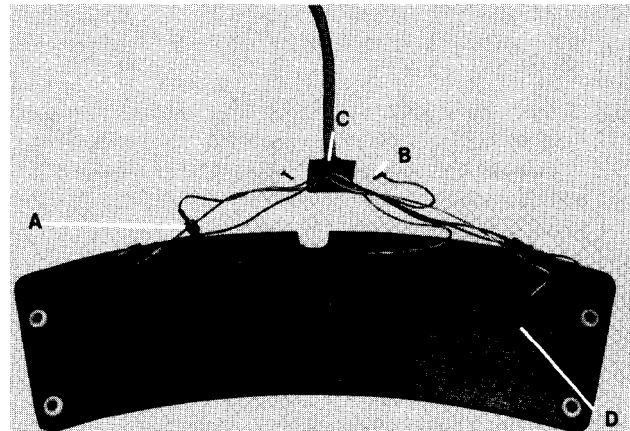

Fig. 38
- 1) Remove cover from bottom of footswitch by removing (7) # 10 Phillips headscrews.
- 2) Disconnect cord by pulling apart (7) quick disconnect wire connectors, Item A, Fig. 38, and removing (2) # 10 taptite screws at the base of the cord bracket, Item B, Fig. 38.
- 3) Hold cord bracket and grasp strain relief bushing, Item C, Fig. 38, with hand pliers (See Special Tools on Page 24.) Squeeze tab on bushing and pull bushing from bracket.
- 1) Remove (2) # 10 Phillips flathead screws from back of footswitch which hold the module, Item D, Fig. 38.
- 13) Align two mounting holes and insert (2) # 10 Phillips flathead screws and tighten, Item D, Fig. 38.
- 3) Remove strain relief bushing, Item C, Fig. 38, from cord by grasping bushing with hand pliers (See Special Tools on Page 24), squeezing tab on bushing, and pulling bushing out of hole in bracket.
- 7) Insert new cord through bracket (See Fig. 38) and install strain relief bushing using the hand pliers, (See Special Tools on Page 24).
Hand Pliers (Fig. 38) is used to remove and install the strain relief bushings. These pliers are manufactured by Heyman Manufacturing Co. and are available through their sales office in Waukesha, Wisconsin. When ordering, specify No. 29 Hand Pliers, Heyco Part# 0022.